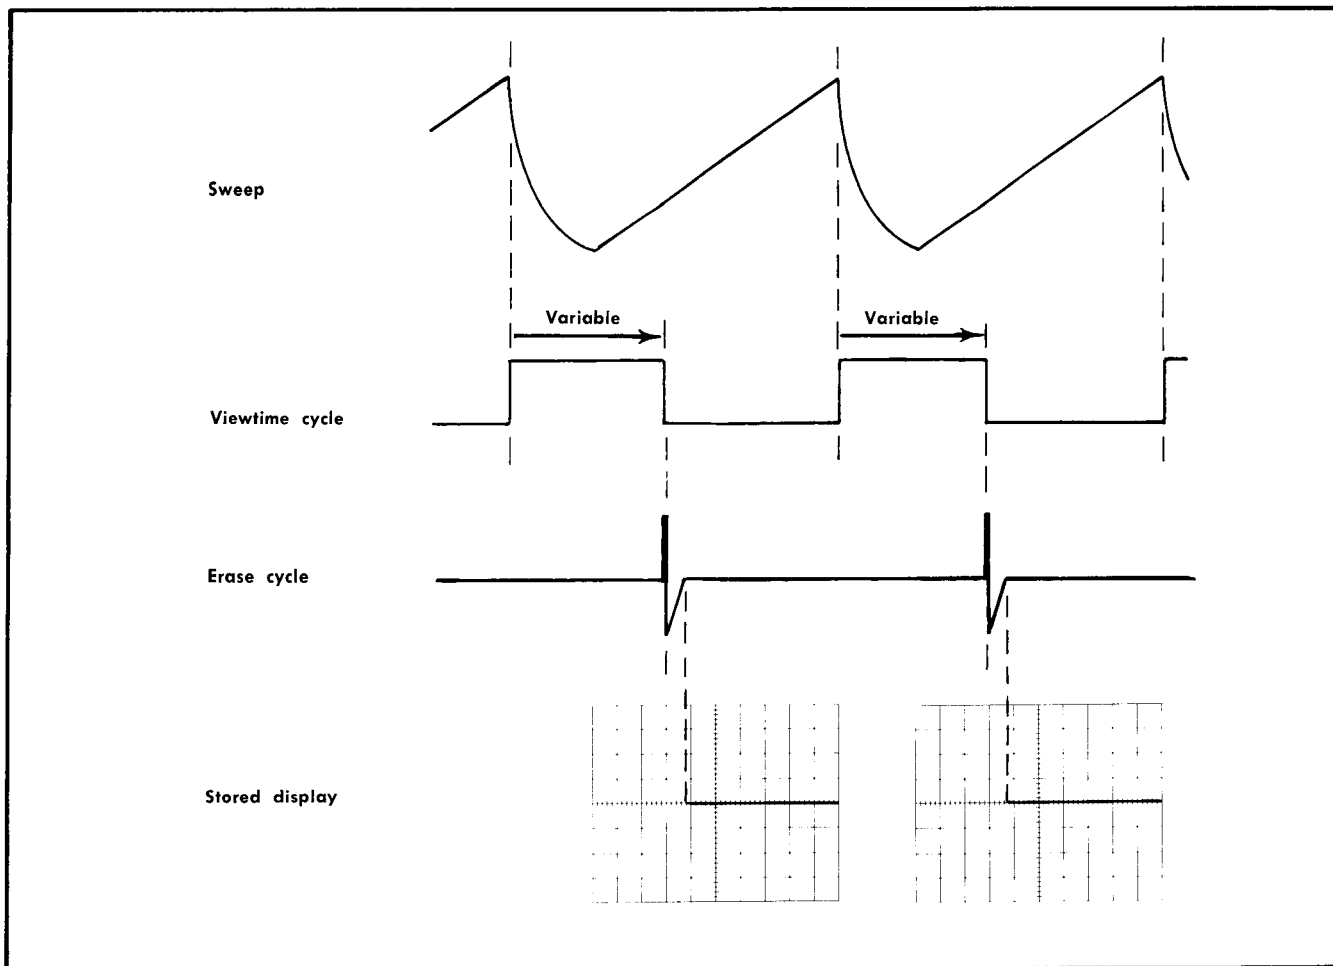

Fig. 5-28. Ladder diagram showing time relationship between sweep and retrace, viewtime and erase cycle, and stored display at slow sweep speeds.
- c. Observe that the stored display is automatically erased while a subsequent sweep is progressing across the screen, and that the remaining portion of the subsequent sweep is stored. See Fig. 5-28.